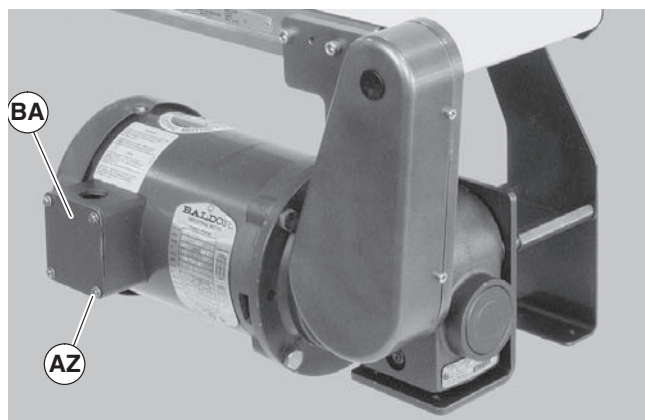

Figure 31
- a. Loosen terminal box screws (Figure 31, item AZ) and remove cover (BA).